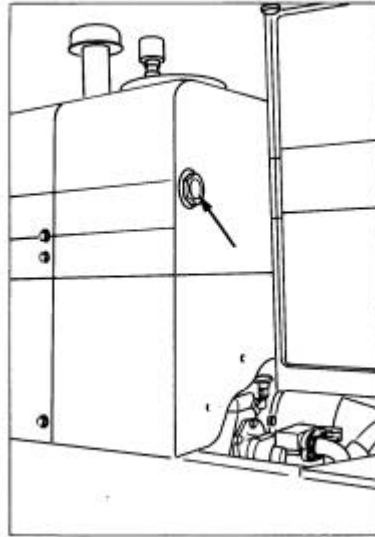

Fig. 5.34. Hydraulic Tank Sight Gauge (behind Cab on RH Side of Machine)
3. Check the oil level sight gauge. If the ball is not floating in the sight gauge (Fig. 5.34), oil must be added.